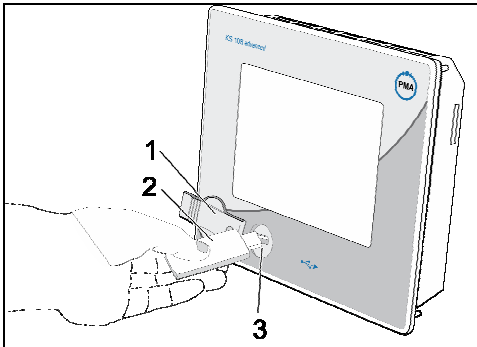

Fig. 48: Using the USB stick
2. **Insert the USB stick:** Carefully lift the cover of the USB connection (Fig. 48/1) on the front of the device and turn it to the side. Now insert the USB stick (Fig. 48/2) in the connection (Fig. 48/3).